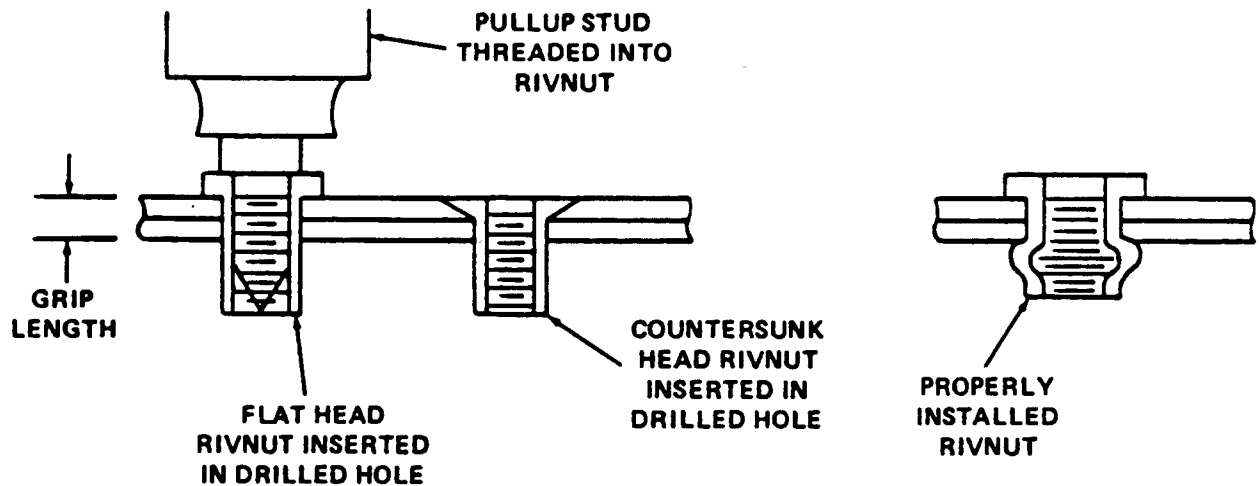

Figure 3-9. Installing Rivnuts.
(1) Installation. (Figure 3-9)